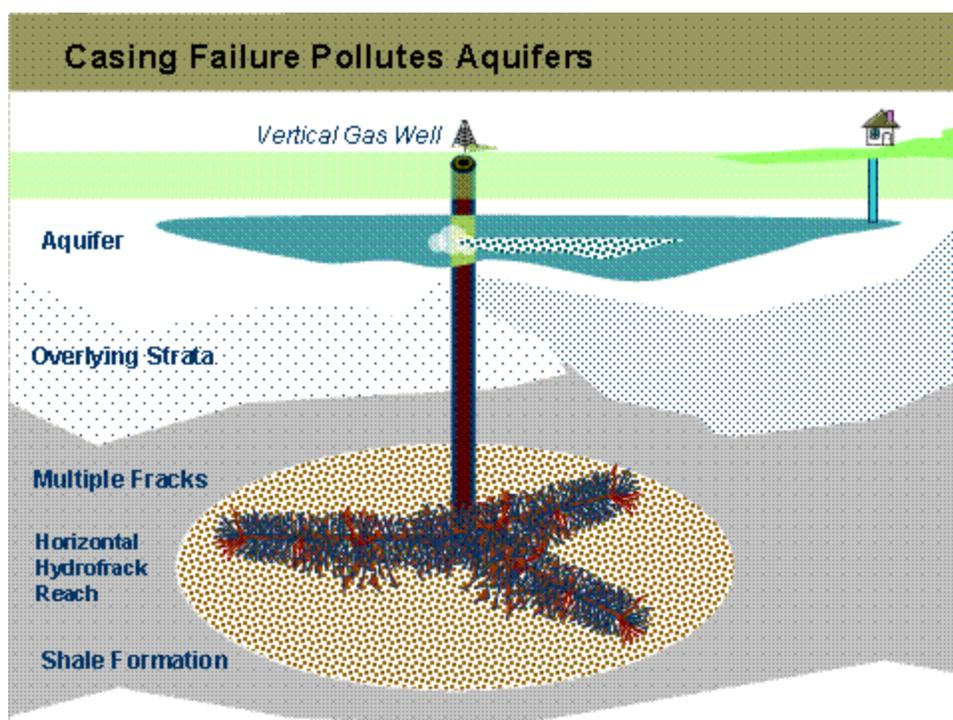

Figure 3.
5. **Failed Well Casings Pollute Aquifers** –Given the massive frack pressures and multiple fracks to extend the productive life of the well, there is a higher likelihood that some surface well casings will fail, releasing produced gas into an aquifer. Such well casing failures have already been documented in the Marcellus shale in Pennsylvania, and in Garfield County, Colorado. The Pennsylvania Department of Environmental Protection recently fined Cabot Oil & Gas for violations on wells drilled in the Marcellus shale near Dimock, Pennsylvania.11 Of 62 wells drilled, Cabot was cited or fined on 32 of them, 8 of which polluted 10 local water wells. This indicates that there could be as much as a 52% probability of environmental damage for each shale gas well drilled, and a 13% probability of gassing a water well. In these instances, well casing failure was blamed for gassing the aquifer. Since these wells will be fracked multiple times to prolong their productive life, the odds of gassing the aquifer may increase each time they are fracked, as shown in Figure 3.